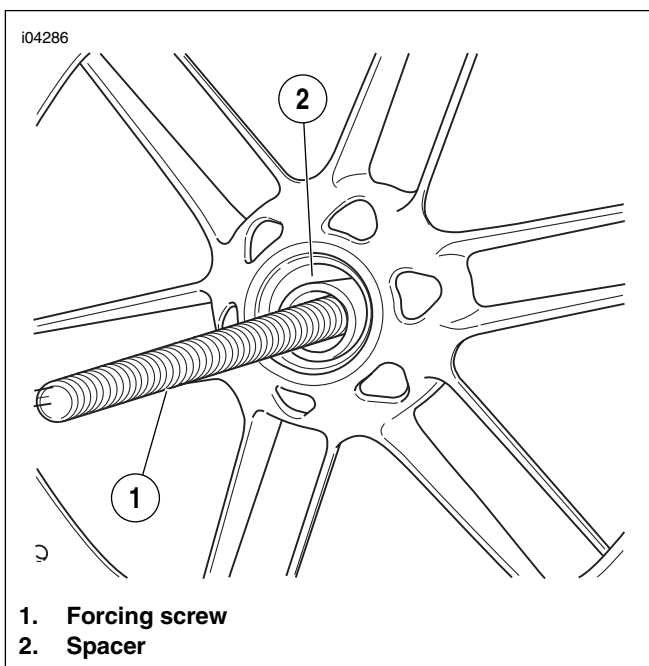

Figure 2-16. Install the Spacer
See Figure 2-16. Center the spacer while installing the wheel bearing. Failure to center the spacer could cause the bearing not to pull in straight.
10. See Figure 2-16. Install the spacer.